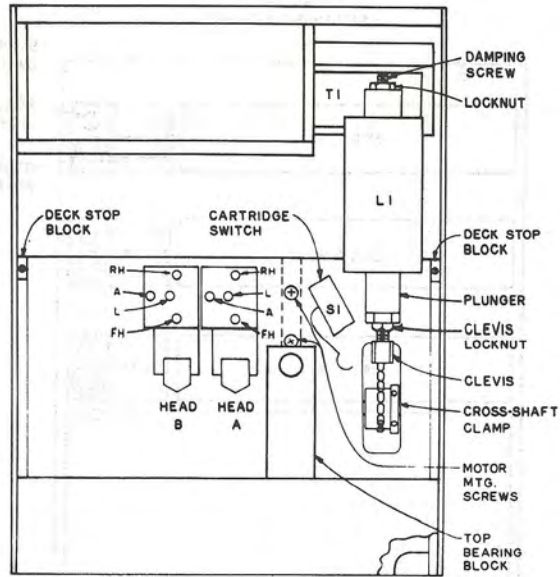
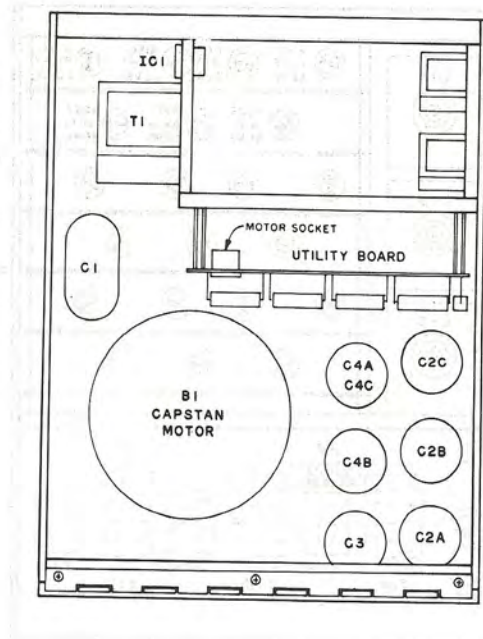

FIGURE 5-3
FIGURE 5-4
3. Remove the capstan motor plug from the socket located on the utility board (see Figure 5-4), and actuate the cartridge sensing micro switch by pushing a piece of folded cardboard or other material between the switch's actuator arm and plunger (Figure 5-3).
4. Press the front panel START switch to energize the solenoid; loosen the screws in the cross-shaft clamp (Figure 5-3). The front panel must be bolted into its closed position when adjusting sliding decks "A" and "B." Adjust the clamp screws so that the clamp is snug on the shaft but can be moved with a small amount of force.
2. If adjustment is required, loosen the clevis locknut and rotate the solenoid plunger as follows (Figure 5-3):
The adjustment procedure outlined below is applicable to all three decks. See Figure 5-3 for parts location. This adjustment in no way affects pressure roller/capstan pressure as in some machines of older design.
The adjustment procedure outlined below is applicable to all three decks. See Figure 5-3 for the location of the adjustment screws mentioned below.
The adjustment procedure outlined below is applicable to all three decks. See Figure 5-3 for the location of the adjustment screws.
recording head, for maximum playback output level while recording the 15 kHz tone (see Figure 5-3).
Diodes CR1, CR2, CR3, and CR4 are a full wave bridge rectifier which furnishes 110 volts DC to the solenoid power supply filter. The dual section filter consists of R1, R9, and the two sections of C2. The diodes and resistors are located on the Utility Power Supply board (see Figure 5-4 for the board location) while the filter capacitors are mounted on the under side of Deck C, the bottom deck (see Figure 5-4). The output of 110 volts DC (under load) is switched by the parallel contacts 7 and 11 / 8 and 12 of control relay K1. A network consisting of C13 and R17 is across the coil of each solenoid L1 for transient protection when power is removed.